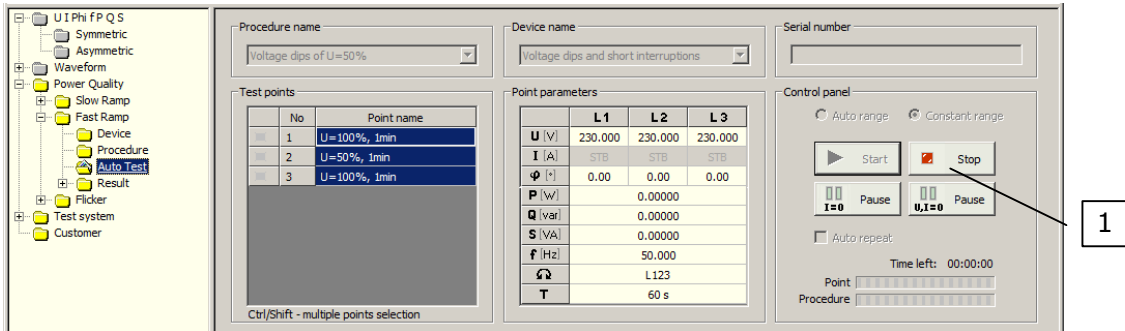

Fig.3.5. Autotest function with procedure in progress
When the procedure is in progress the user can abort a procedure (in any time) by the *Stop* button (pos.1 Fig.3.5).